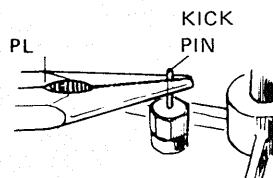

Fig. 12
- Check that kick pin (see Fig. 12) on bottom of turntable platter is not bent or broken off.